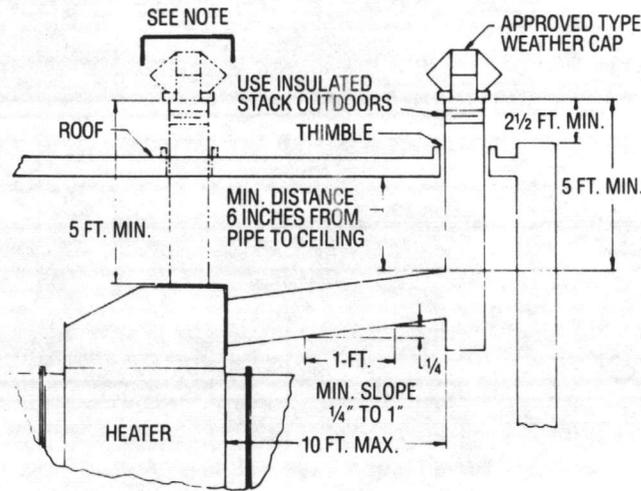

Figure 6
- c. **VENTING:** (See Figure 6)